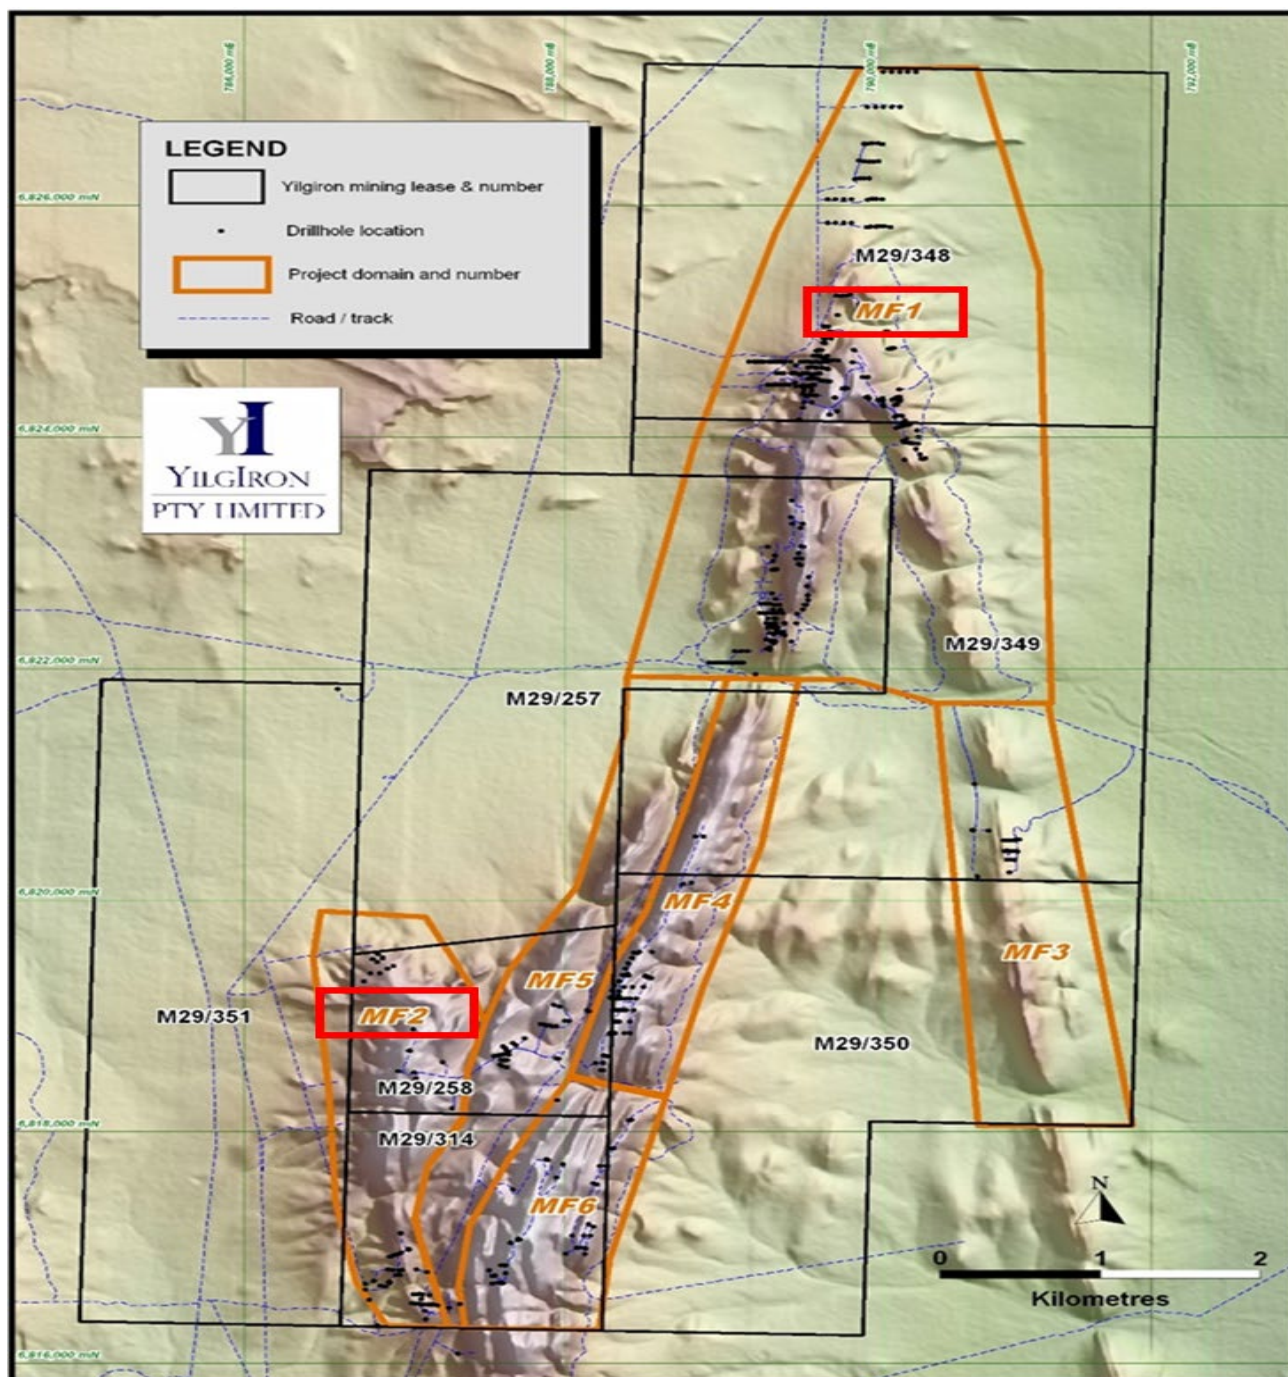

Figure 1 Mt Forrest Project with MF Domain Location Plan
- A further 10,000m of additional exploration and definition drilling has been added to the drill program. A new Target, MF6, refer to figure 1 has been included and is well underway with encouraging assay results continuing to validate and verify the strong continuity of the high-grade magnetite iron mineralisation for MF1 and MF2.
- A total of 31,593 Reverse Circulation ("RC") metres has been drilled. Drilling continued at the two key locations, MF1 and MF2, refer to Figure 1.
- A total of 2,204 Diamond Drilling ("DD") metres has been drilled. Drilling was completed at MF2 and is now currently drilling at MF1 refer to Figure 1. Diamond core will be cut early next month for assaying.